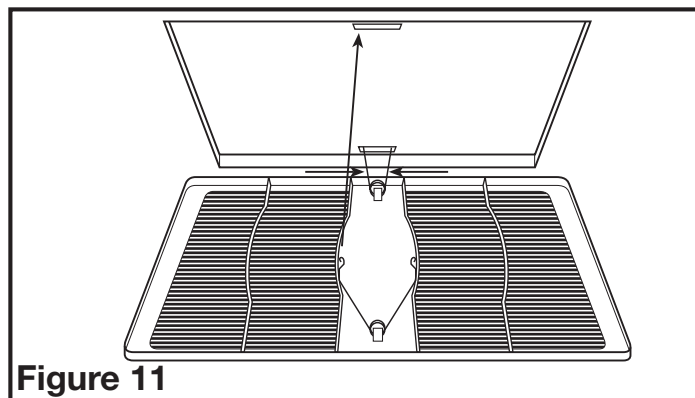

Figure 11
5. Install the grill by squeezing the two ends of the springs together and installing them up into the slots on the fan's housing. Push the grill up into position (**Figure 11**).